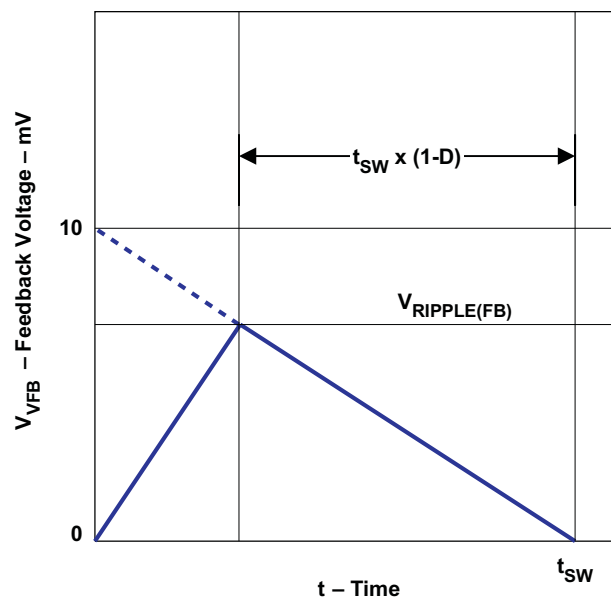

Figure 15. Ripple Voltage Down Slope
- the output ripple down slope rate is 10 mV/t_{sw} in terms of VFB terminal voltage as shown in Figure 15